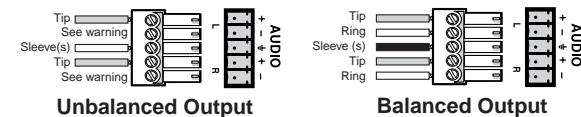

Figure 2-17 — Captive screw connector wiring for audio output
- Before connecting audio, determine whether your audio system is unbalanced or balanced. Connect an audio device, such as powered speakers, to the rear panel stereo audio output connector for balanced or unbalanced audio output. Following the wiring guide (figure 2-17), insert the wires into the appropriate openings in the captive screw connector. Tighten the screws on top to fasten the wires, then insert the wired audio connector into the audio output connector on the interface rear panel.